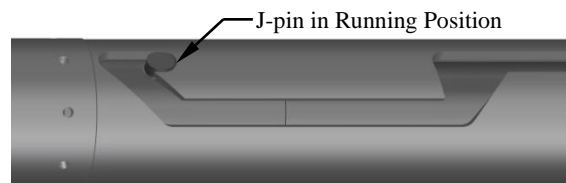

Fig. 4
L-2.16) Position J-pin in running position in J-slot of J-body (20) (Fig. 4).